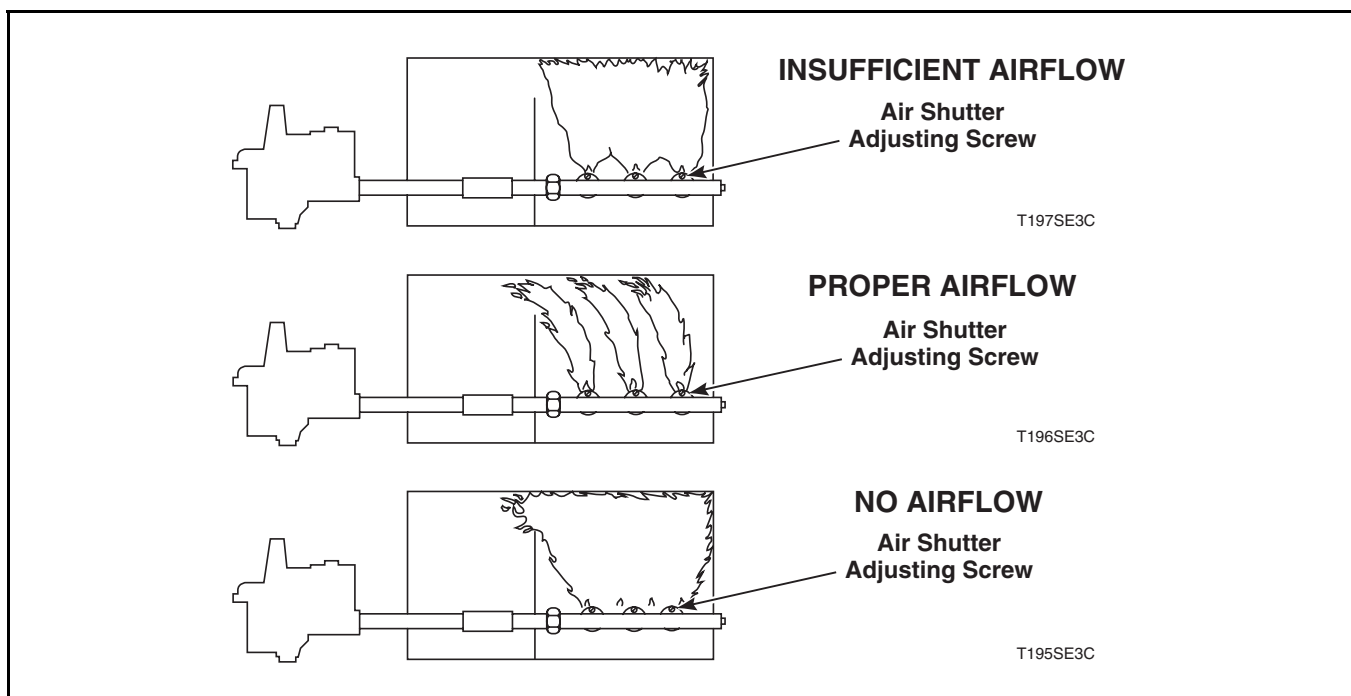

Figure 23
- b. Start the tumbler and check the flame pattern. Correct air and gas mixture is indicated if the flame pattern is primarily blue, with small yellow tips, and bends to the left of the heater section. Refer to *Figure 23*. Too little air is indicated if the flame is yellow, lazy and smokey.
- f. If the flame pattern is straight up, insufficient air is flowing through the tumbler. Refer to *Figure 23*. A flame pattern that flares to the right and left indicates that no air is flowing through the tumbler.